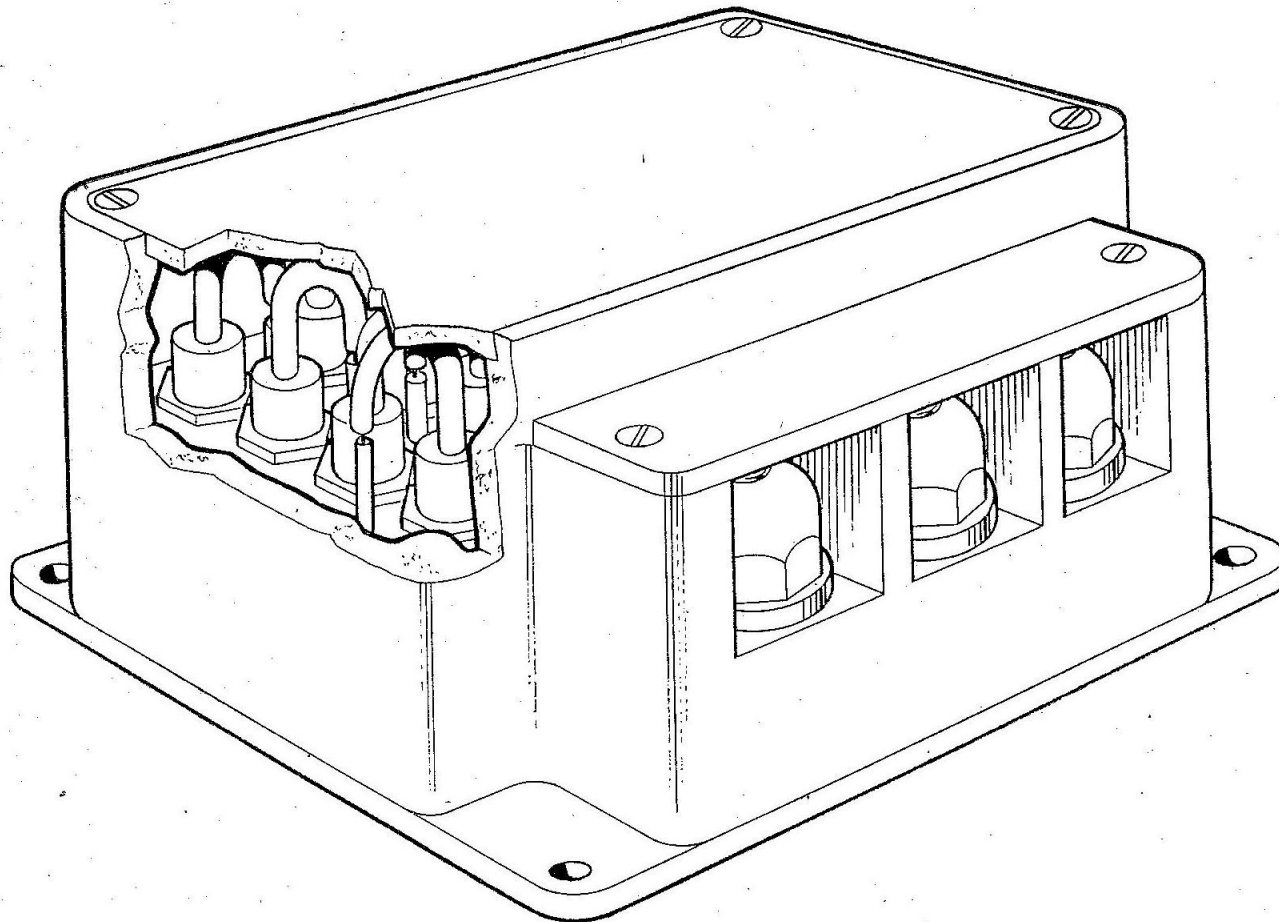
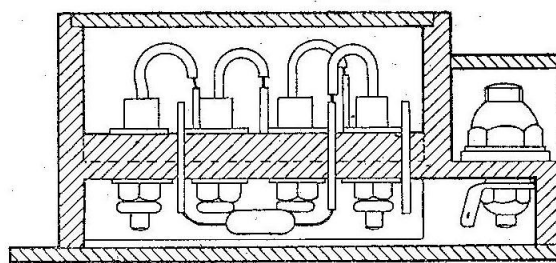

Fig. 1. Suppressor Unit type A
Fig. 2. Internal view
2. The unit consists of 24 diodes mounted on a silicon-bonded glass fibre moulding and three wire wound resistors, all the components are mounted within a metal box (fig. 1). The diodes are mounted on the moulding in sets of four and there are three compartments, with two sets in each (fig. 2). The four diodes in each set are wired in series and a resistor connects the two sets in opposition. The three compartments are connected in delta and the connections are taken to three terminals.